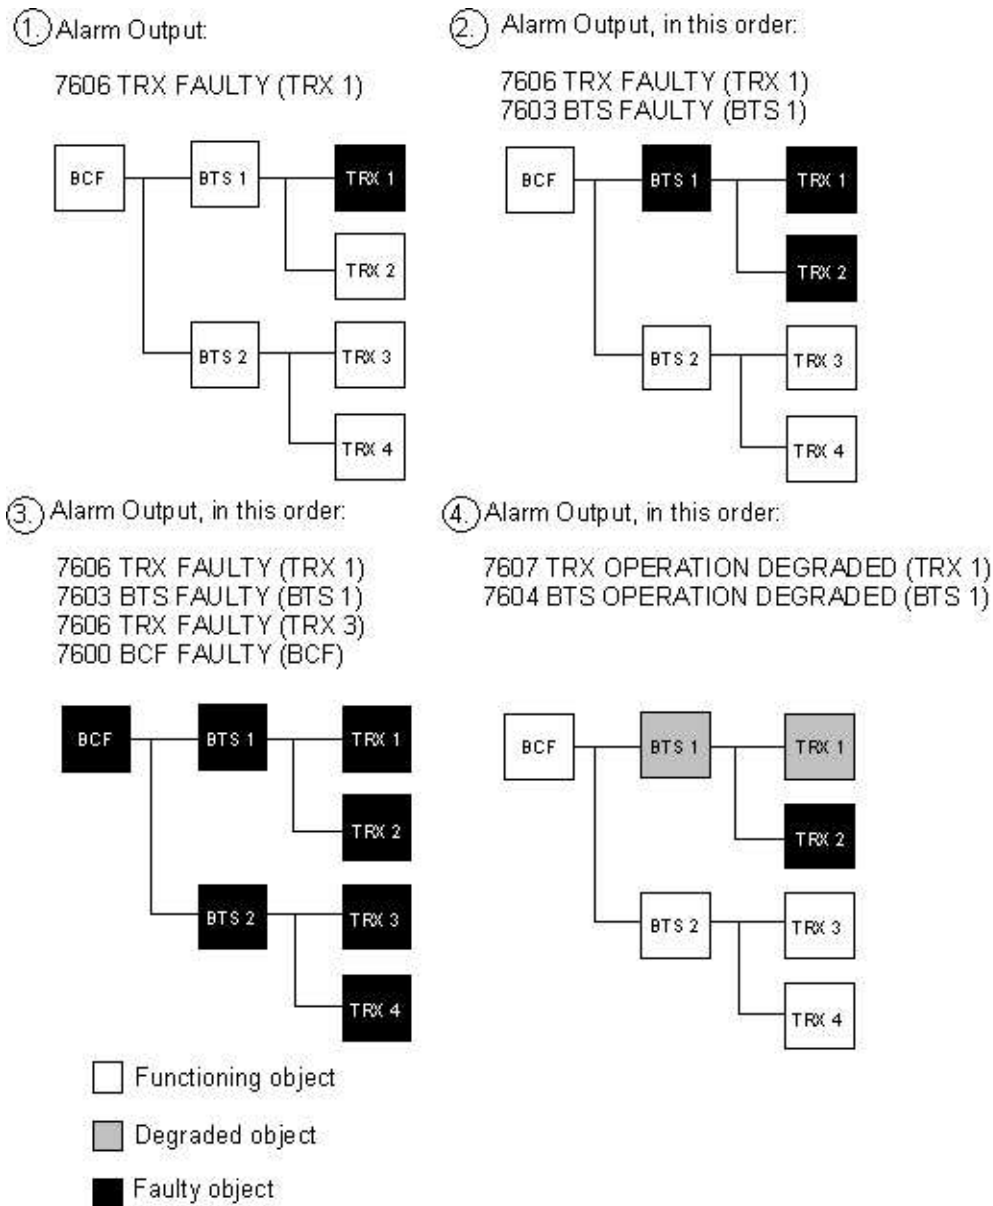

Figure 4. Faulty and degraded object alarm reclassification
- Figure 4. Faulty and degraded object alarm reclassification **16**